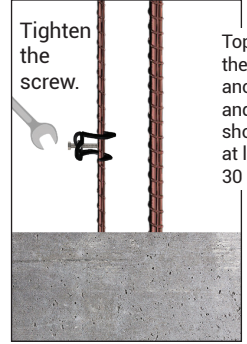

Figure -3
- » It is brought to the point where it will be fixed with a maximum clearance of 10 cm between the surface of the stirrup on the concrete or stirrup and the OD-RB-44 bottom point. (Figure-3)